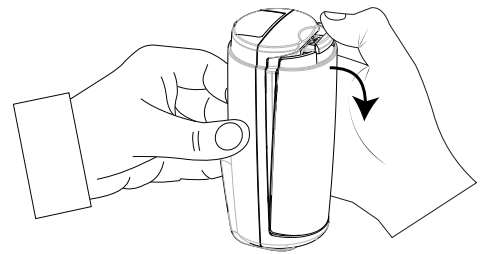

Figure 12 - Opening the battery cover
2. Open the battery cover by pressing on the snap located at the top of the battery cover (see Figure 12).